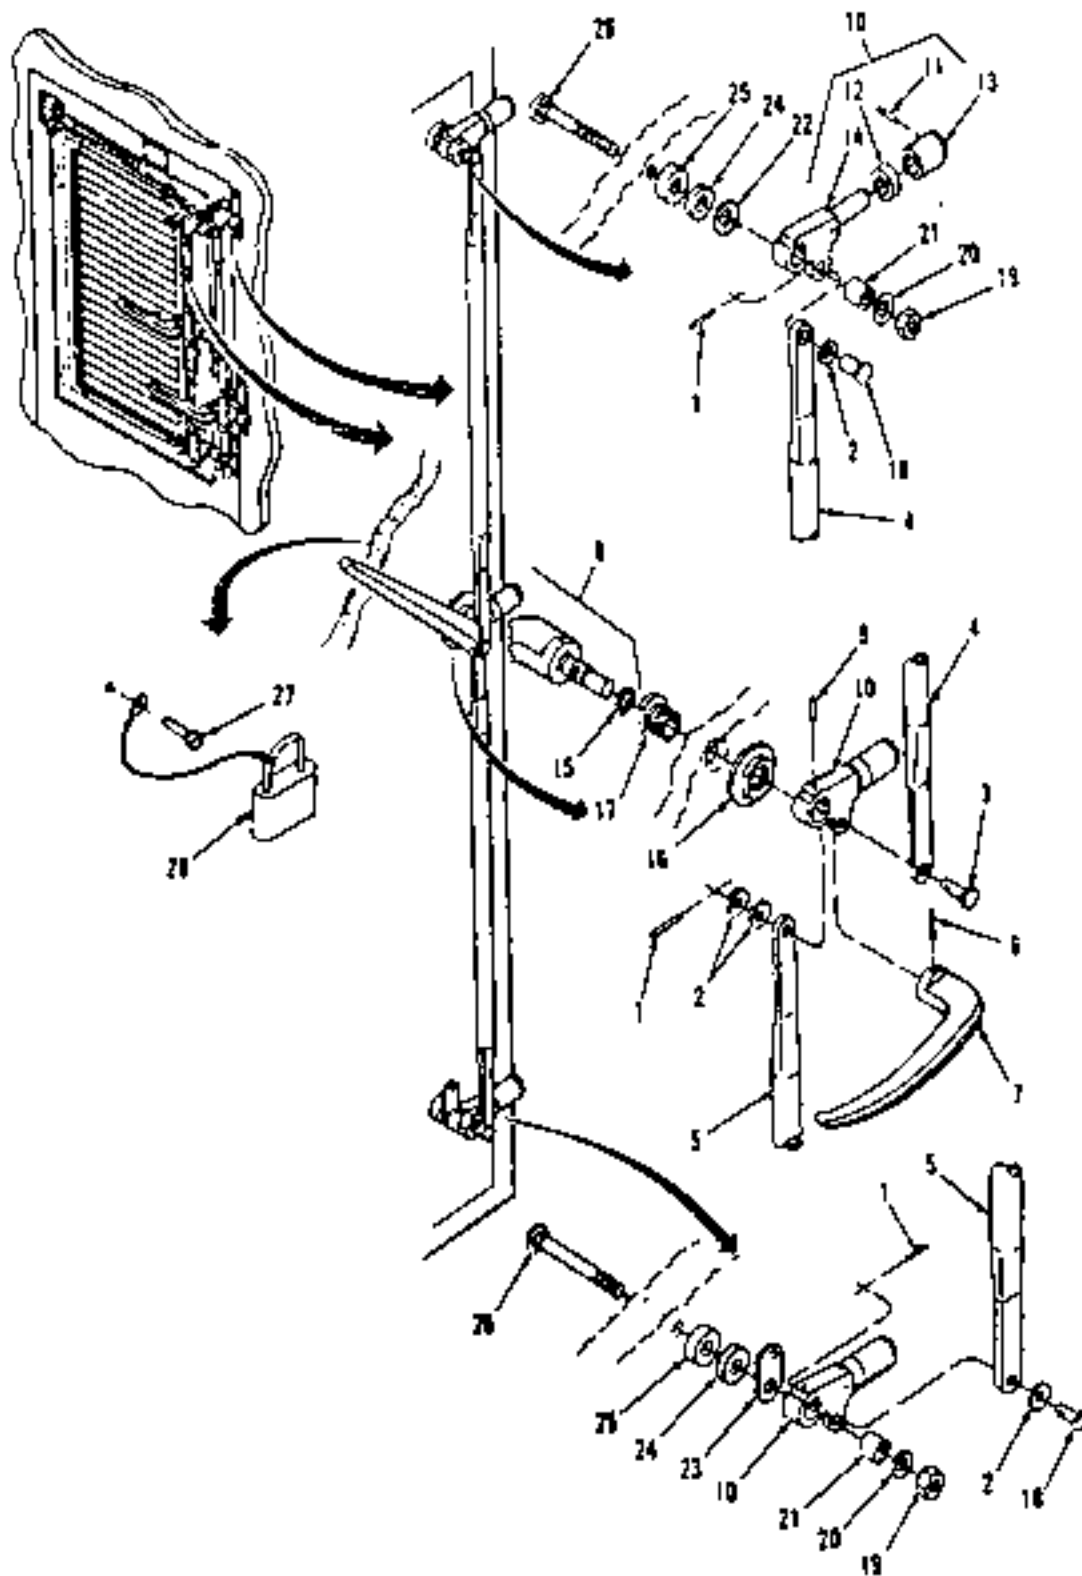

Figure 3-21. Door Handle Assembly and Latching Mechanism Replacement.
Except for the length of the latch assembly rods (items 4 and 5, Figure 3-21), the inner door and outer door handle mechanisms are identical. Maintenance procedures are the same for both.
- (1) Inspect the door latch assembly for secure mounting and broken or worn parts.
- (2) Inspect for ease of operation.
- (3) Inspect the door handle for tightness and for worn or damaged parts.
b . Service. (Figure 3-21) Service of the door latch assembly consists of lubricating the door handle (8) and latch arm assemblies (10) with lubricant.
c . Disassemble. (Figure 3-21)